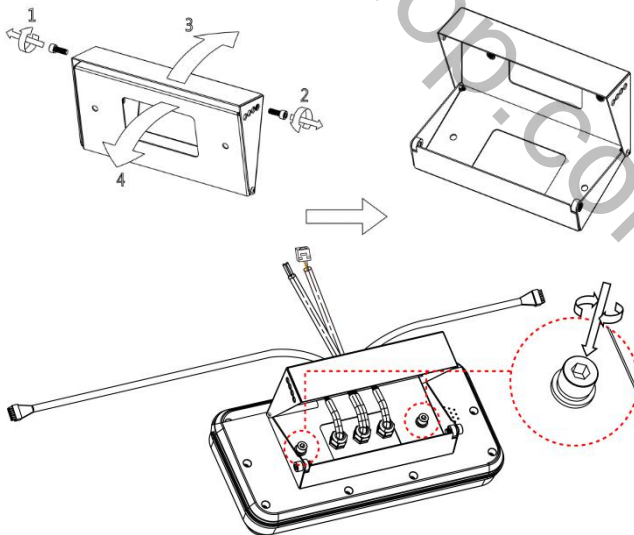

Figure 3-3
Step 3: Install the adjustable metal bracket on the host. The screws and holes on both sides of the bracket can fix and adjust the display angle of the host, as shown in the figure 3-3 below.